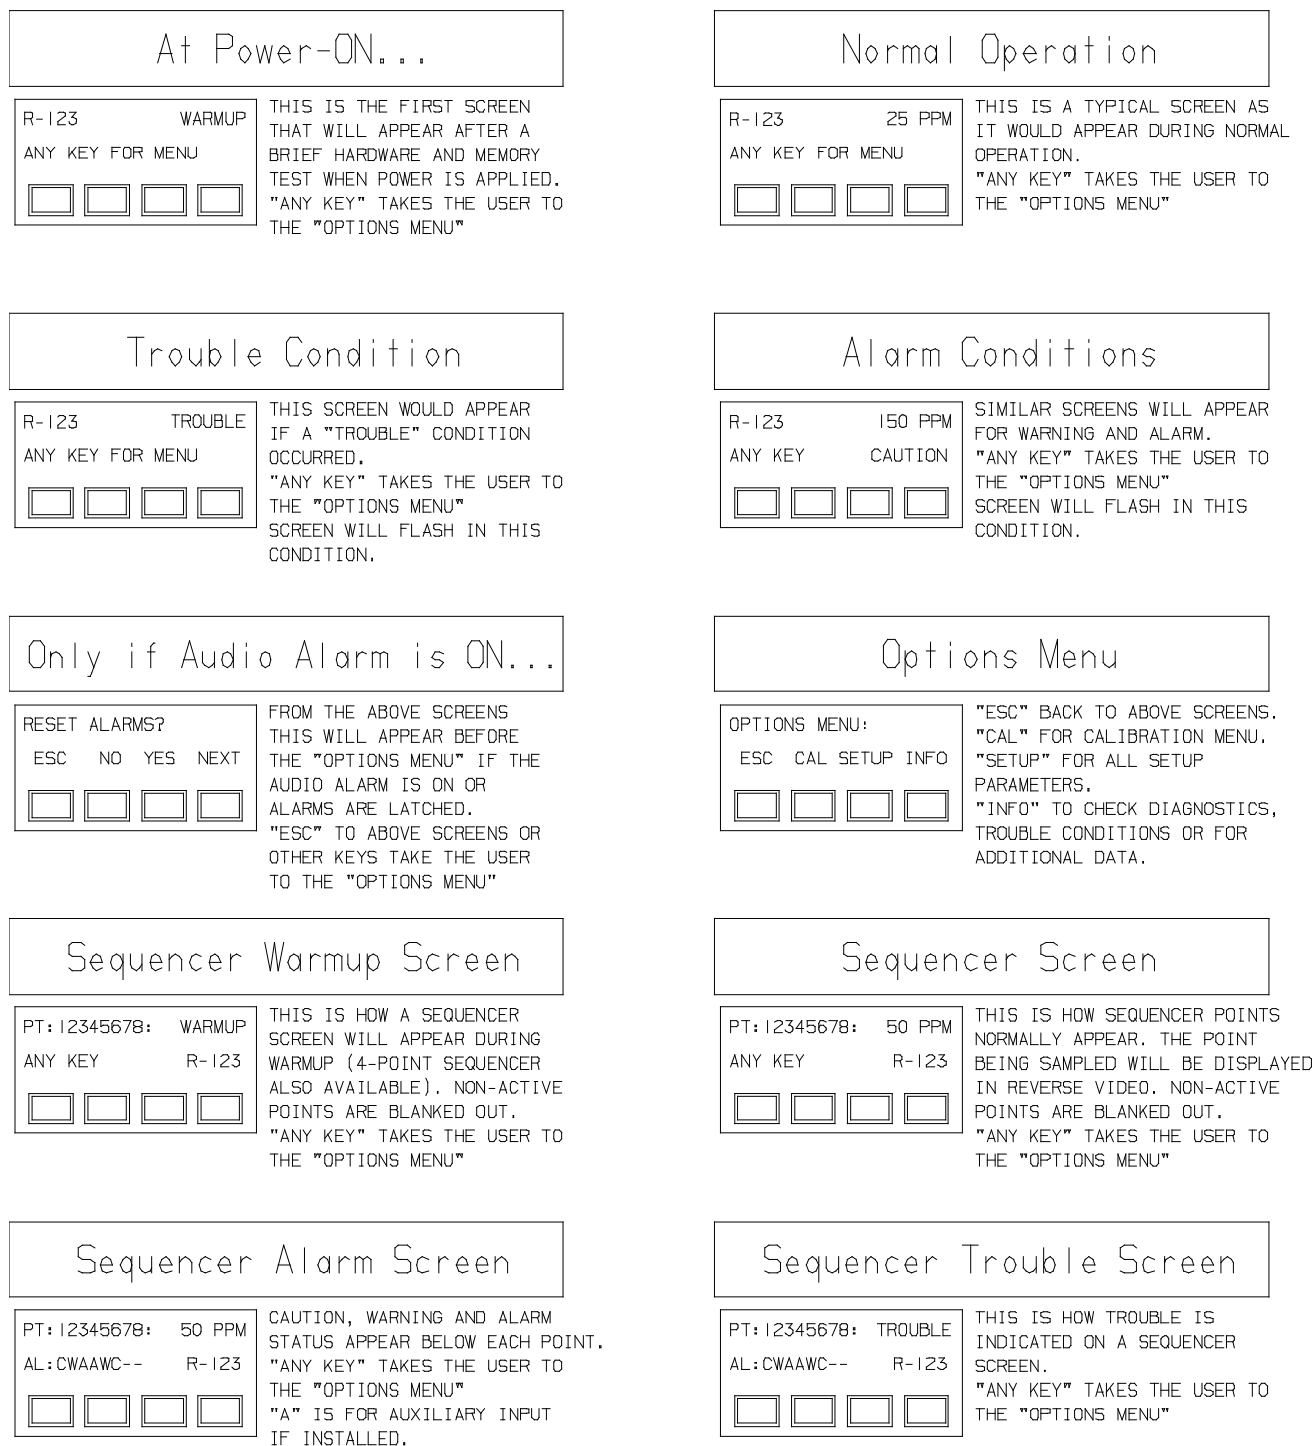

Figure 3-2.
- Start-up and Normal Operation Screens (FIGURE 3-2)